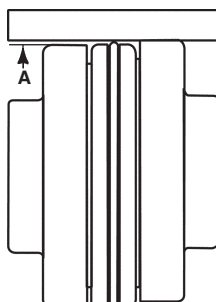

Figure 2-3
2. Measure the maximum offset (A), Figure 2-3, at various points around the periphery of the coupling. **DO NOT** rotate the coupling.
To check the PARALLEL alignment: (Refer to Figure 2-3)